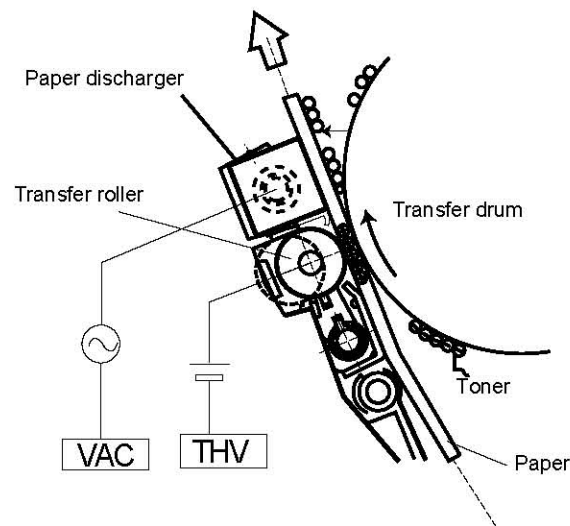

Fig. 4-22
- (1) Structure of Paper Discharger (Refer to Fig.4-22.)
- (2) Process of Paper Discharging (Refer to Fig.4-22.)